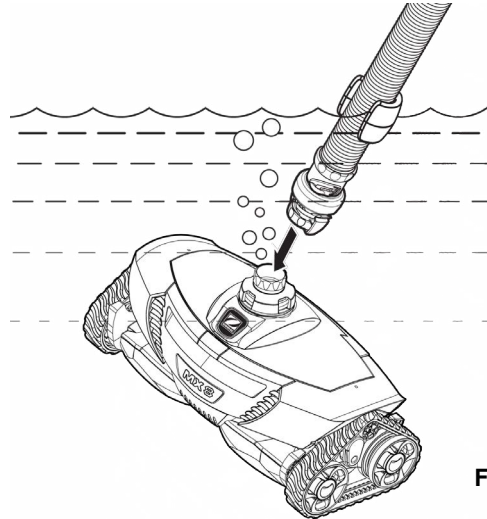

Figure 7
3. When bubbles stop coming from the cleaner, connect the hose by pushing the flow regulator valve onto the cleaner (Figure 7).